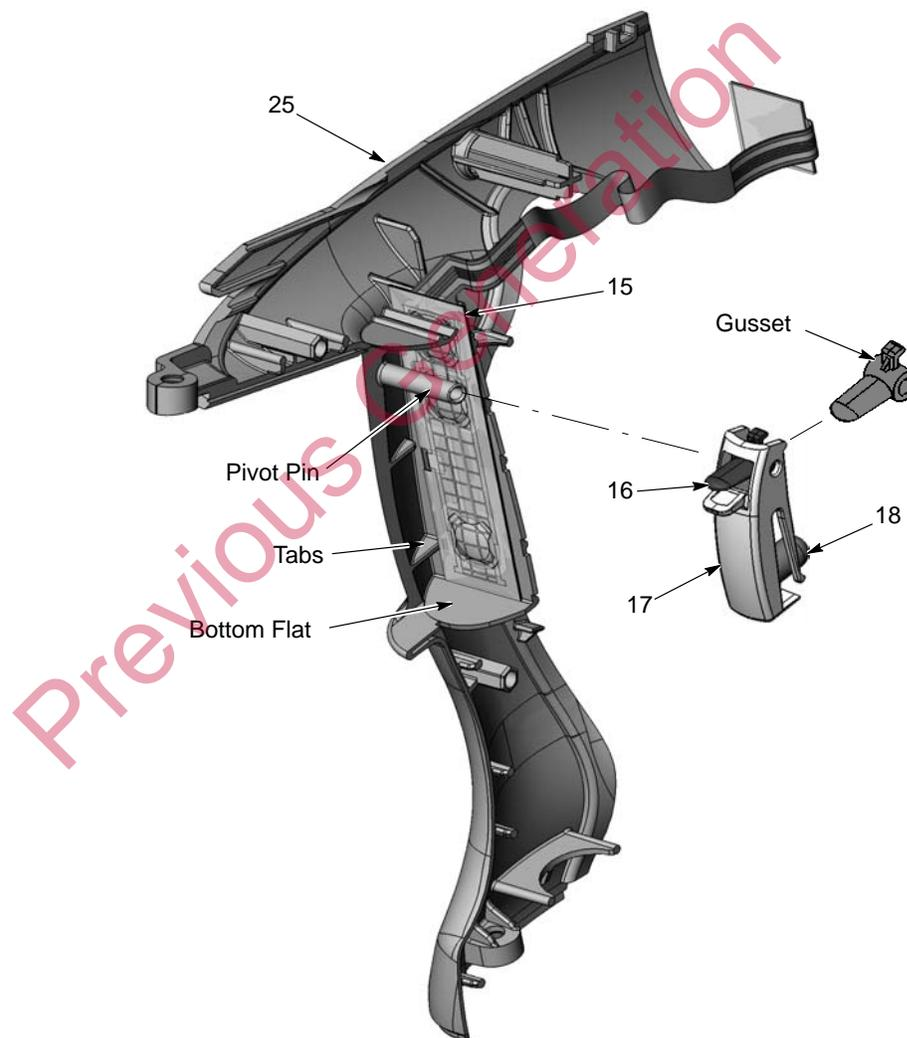

Figure 5-10 Trigger Switch and Trigger Mounting
4. Install the inlet tube with O-rings installed (23) into the handle base (22).
5. See Figure 5-10. If removed, install the trigger switch (15) on the mounting flat of the right handle (25), up against the tabs and bottom flat. Press firmly on the switch to secure it in place.
6. Assemble the actuator (18) on the main trigger (17) boss. Note the orientation of the settings trigger (16) gusset, then insert it into the main trigger. Align the pivot holes in the triggers then slide the triggers over the trigger pivot pin on the right handle half.